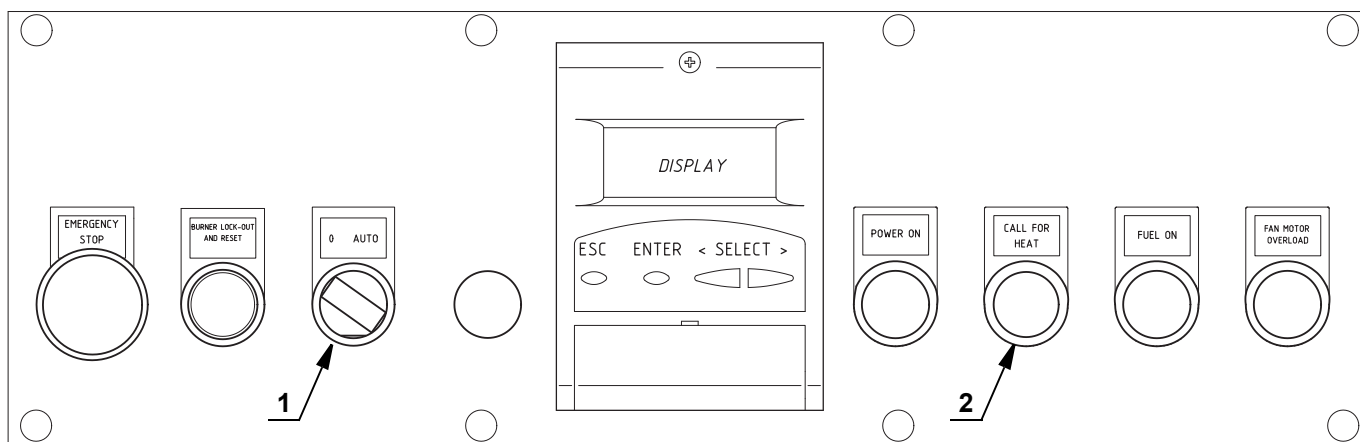

Fig. 30
Close the remote controls and position the selector 1)(Fig. 30) to "AUTO".
When the limit thermostat (TL) is closed, the "HEAT REQUEST" 2)(Fig. 30) signal must be on and the burner starts the starting cycle.